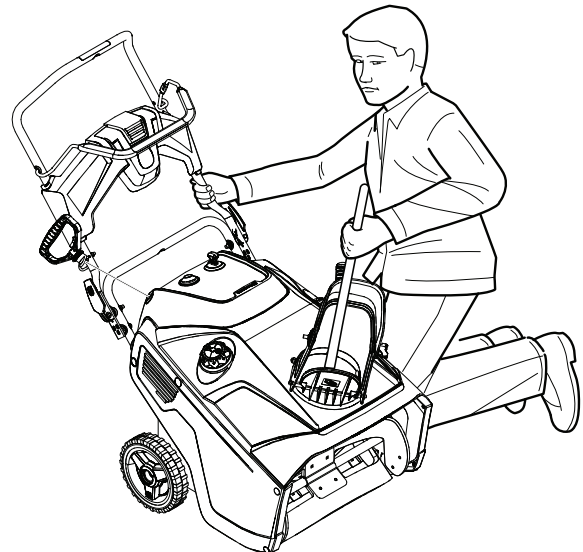

Figure 18
3. Always use a clearing tool at least 15 inches long, not your hands (Figure 18).